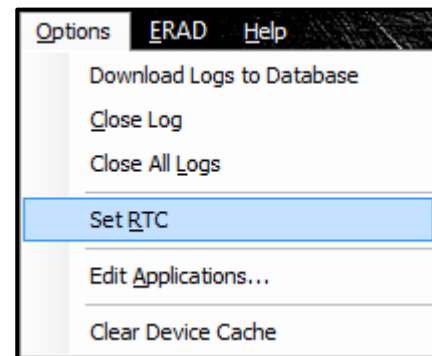

Figure 8.3-1: Set RTC from Options Menu
3. Select "Set RTC" from the Options drop down menu (Figure 8.3-1).